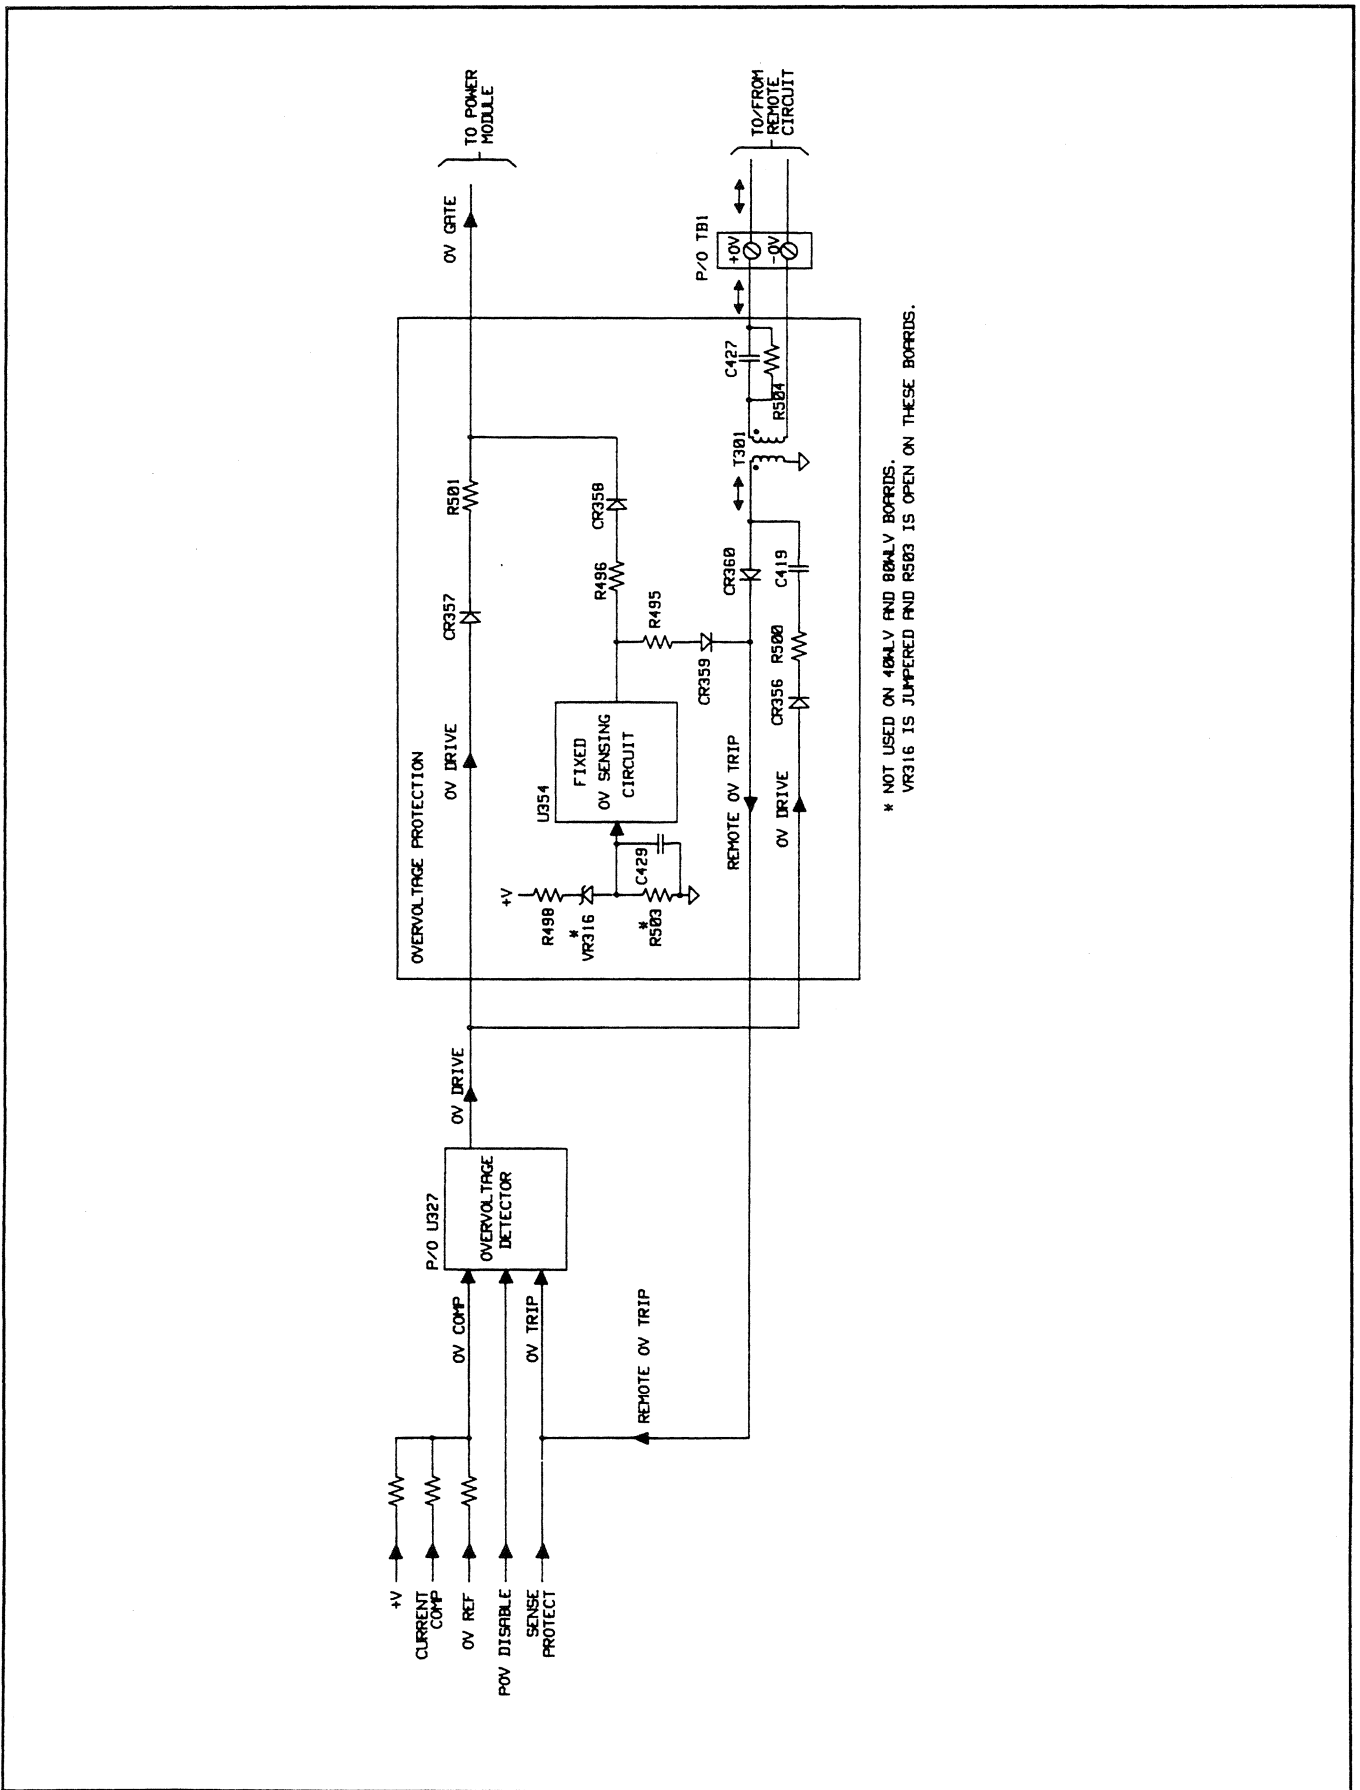

Figure 2-9. Overvoltage Protection Circuits, Simplified Schematic
**2-47 Overvoltage Protection Circuits.** These circuits generate the OV GATE signal which fires the SCR in the power module and shuts down the output. Figure 2-9 is a simplified schematic of the overvoltage protection circuits which are comprised mainly of a fixed overvoltage sensing circuit (U354), signal processor U327, diodes CR356-CR360, and pulse transformer (T301) that couples the remote trip signals that are sent/ received via the + OV and - OV terminals.
As shown in Figure 2-9, the main input to the overvoltage protection circuits is the OV DRIVE signal which is received from the overvoltage detector (P/ O U327, see paragraph 2-32). The OV DRIVE signal goes high to activate the OV GATE signal which is sent via diode CR357 to fire the SCR in the power module. The conditions which activate OV DRIVE are described in the following paragraphs.
signal can activate the OV DRIVE and shut down the supply regardless of the state of the POV DISABLE signal. As shown in Figure 2-9, OV TRIP is the output of a wired OR signal can gate and can be activated by either the SENSE PROTECT signal (as described in paragraph 2 - 41) or by the REMOTE OV TRIP signal. The REMOTE OV TRIP signal can be generated by the fixed OV sensing circuit or by a remote signal connected to the output's + OV and - OV terminals.
As shown in Figure 2-9, the trip signal enters at the  $\pm$  OV terminals and is coupled through pulse transformer T301, diode CR360, and the overvoltage detector circuit to generate OV GATE through CR357 and shut down the supply.